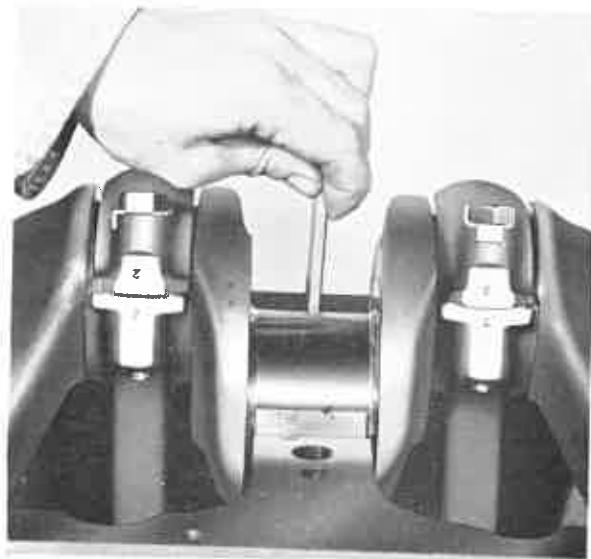

Fig. M.2.
5. With a suitable piece of wood push out the top half of the bearing by rotating it on the crankshaft, applying the tool to the side opposite the locating lip (See Fig. M.2). The